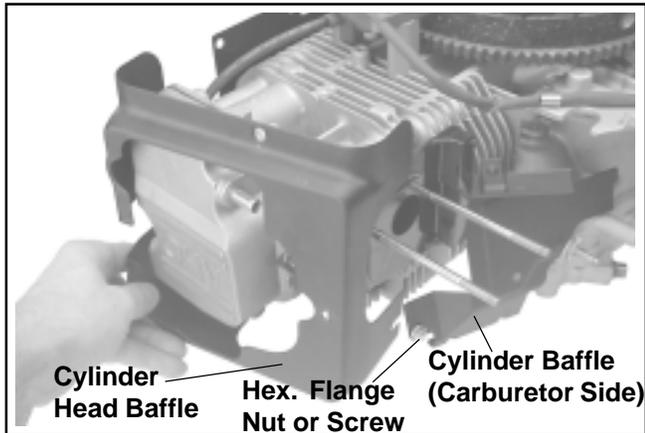

Figure 9-18. Removing Blower Housing and Baffles.
3. Remove the hex. flange nut on stud securing the carburetor side baffle,\* if not removed previously during carburetor removal. Remove the screws attaching the cylinder head baffle. See Figure 9-18.